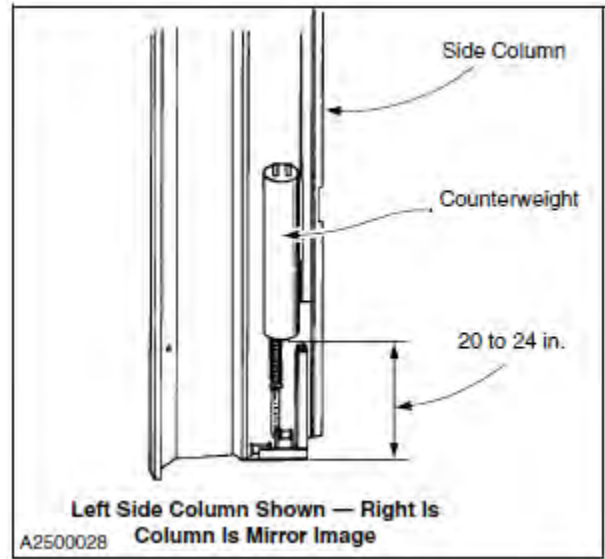

Figure 54
- Securely support the counterweight at the position shown in Figure 54.
- Adjust the length of the counterweight strap as required to achieve the position shown in Figure 54
- Remove the support from the counterweight and allow it to hang free. If required, readjust strap to position the counterweight as shown in Figure 54.